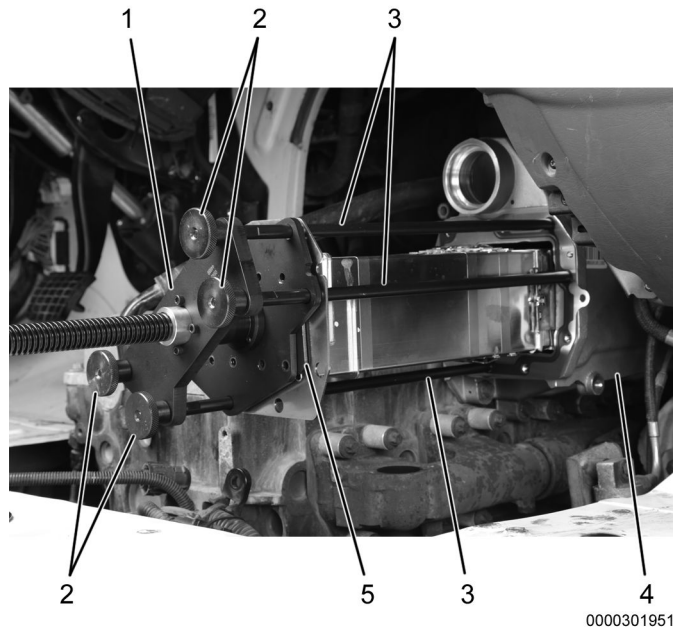

Figure 9. Puller Assembly Removal.
1. Remove four thumb screws (Figure 9, Item 2) from four threaded rods (Figure 9, Item 3).
2. Remove puller assembly (Figure 9, Item 1), with installation plate (Figure 9, Item 5) from HT EGR cooler housing (Figure 9, Item 4).
3. Remove four threaded rods (Figure 9, Item 3) from HT EGR cooler housing (Figure 9, Item 4).